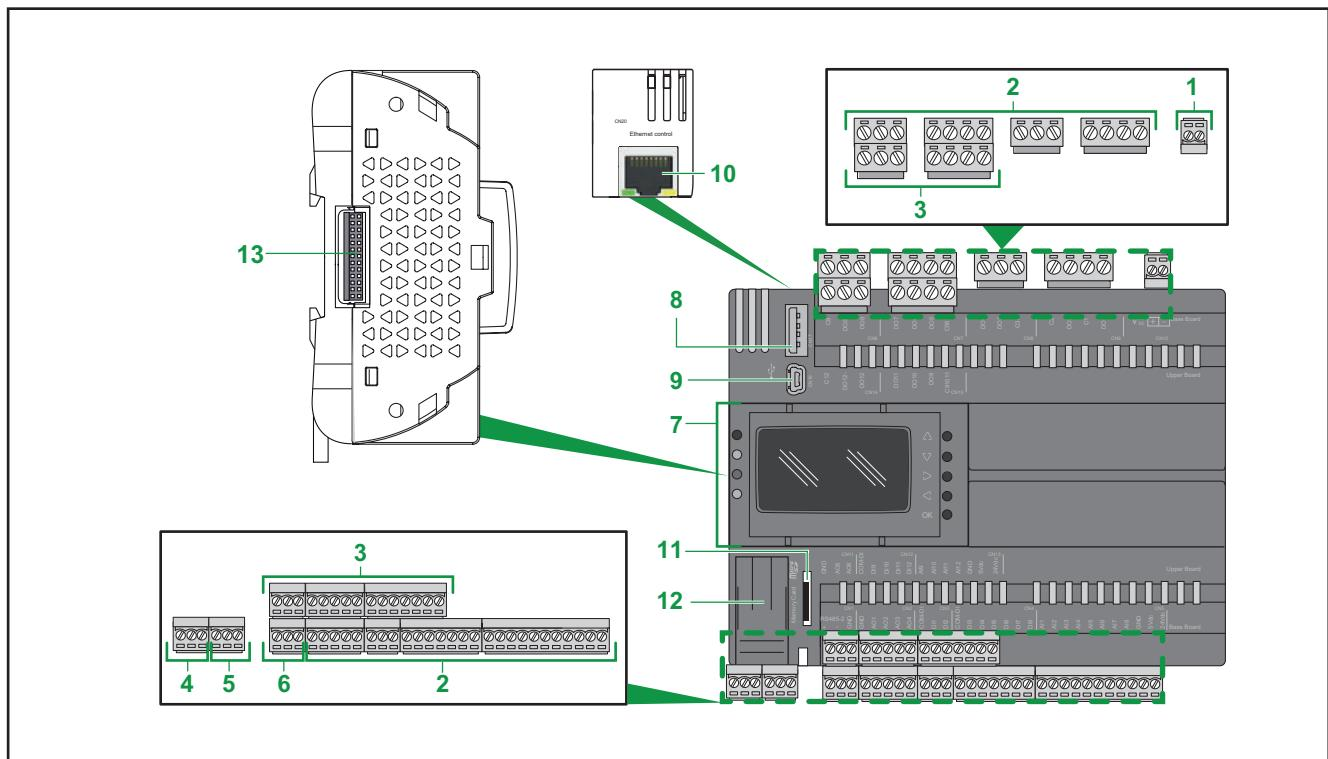

Fig. 3. Main components of the EWCM 9000 PRO (HF)
1.1.3. Main components of EWCM 9000 PRO (HF)
The components of the **CO2 compressor rack controller EWCM 9000 PRO (HF)** depend on the controller version. In Fig. 3 on page 17 the **CO2 compressor rack controller EWCM 9000 PRO (HF)** has installed terminal boards.